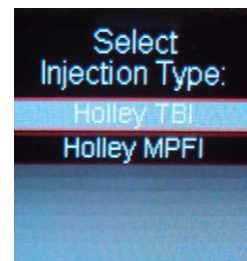

Figure 4
4. Next, select the type of fuel injection system you are using (Fig 4). Select "Holley TBI" if you have a Throttle Body Injection system. Select "Holley MPFI" if you have a Multiport Injection system. TBI systems have the fuel injectors in the throttle body itself. Multi-port systems have individual injectors in the intake manifold runners.